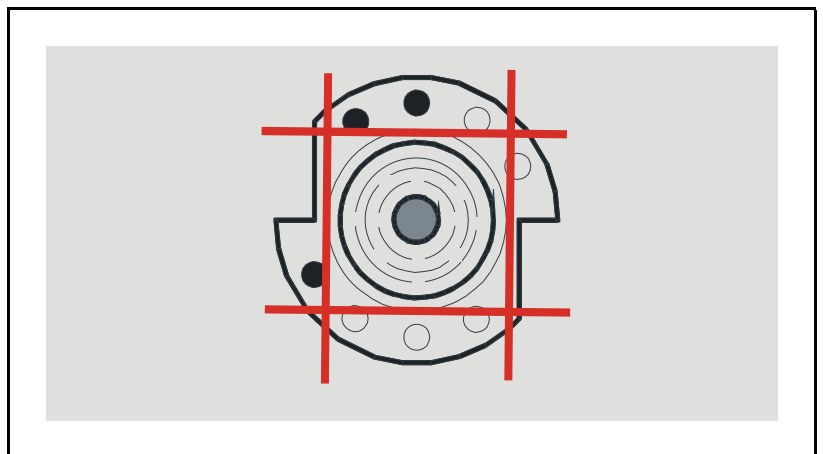

Figure 4-17. Align the tool inside the square.
- When prompted, use the trackball to align the tool's X direction inside the square, see Figure 4-17.
- When prompted, use the trackball to align tool number 4 between the two parallel lines drawn in the graph. (See Figure 4-17 and Figure 4-17 for HC2 respective LSC).